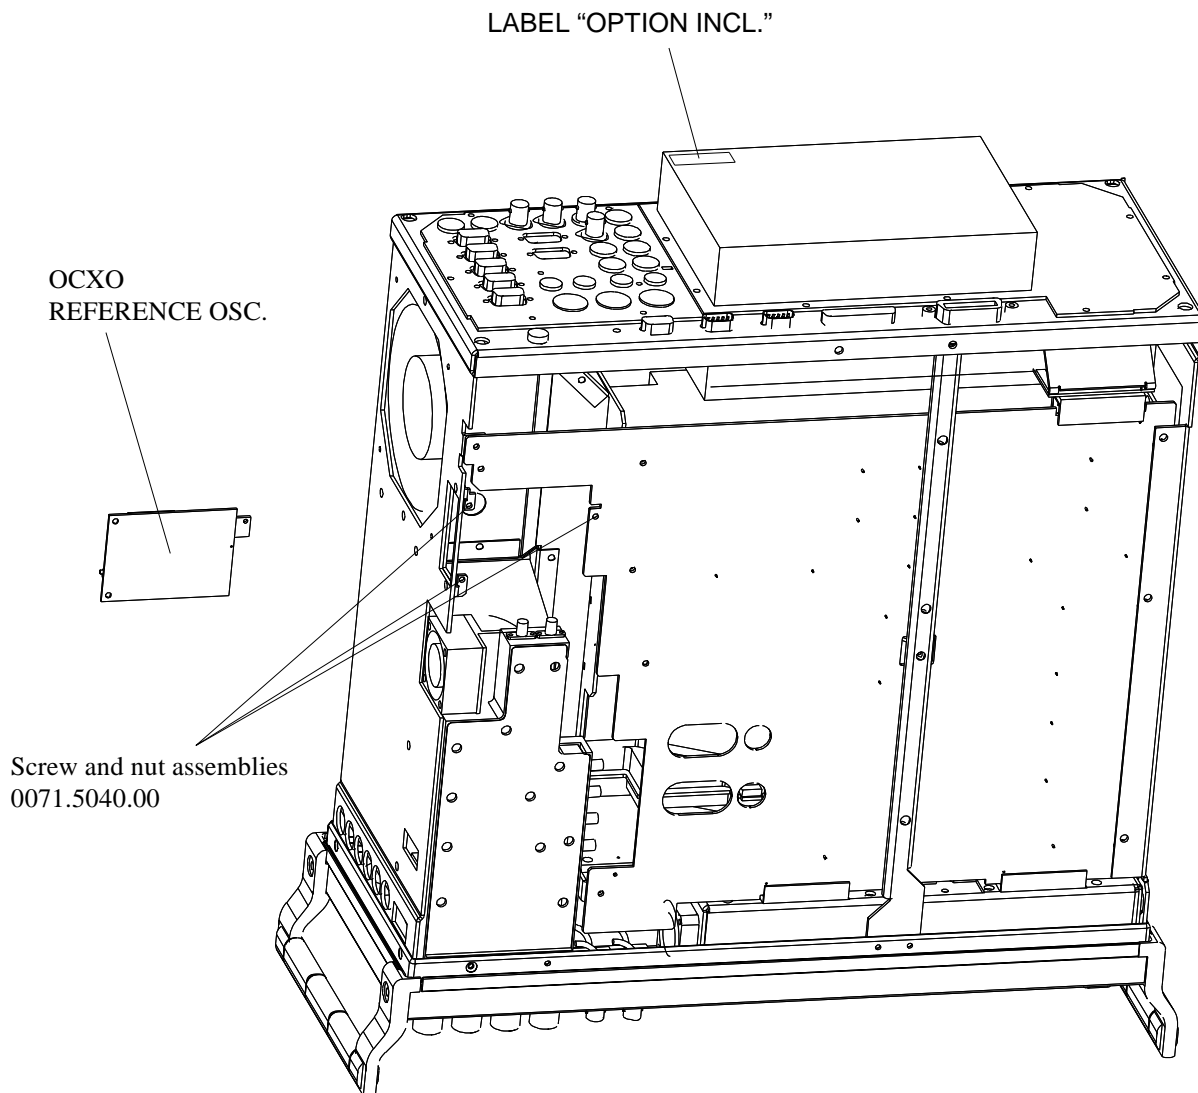

Fig. 2
- 2.1 Fit OCXO REFERENCE OSC. using the three supplied screw and washer assemblies (VS 0071.5040.00, see Fig. 2).
- Affix OPTION INCL. label to power supply unit (Fig. 2).